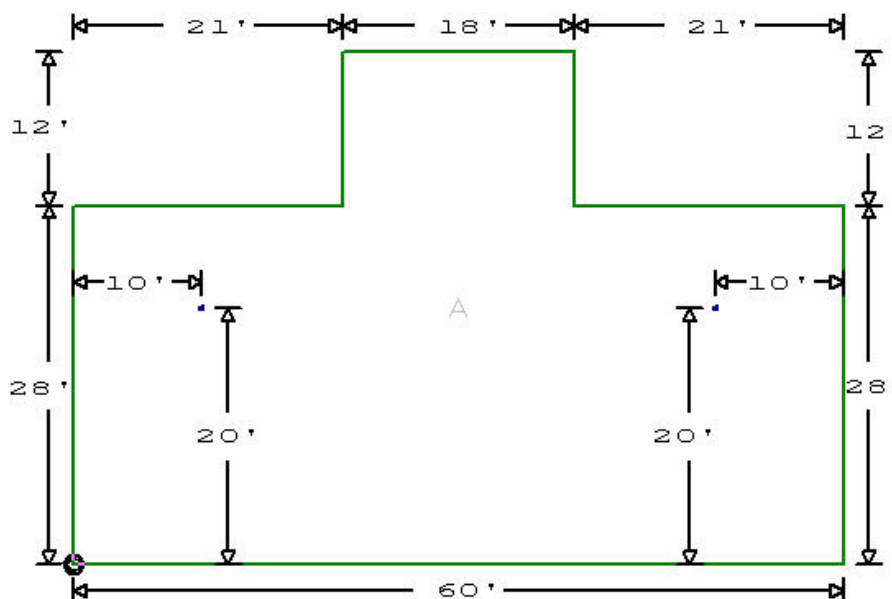

Figure 7-1 Roof Section A
First, you need to open a new project and draw a roof section. The roof in this tutorial is a simple rectangular roof with a protruding section at the top, as shown in Figure 7-1.
3. Draw the roof pictured in Figure 7-1, using the U, R, D, and Q keys.
4. Add two drains to the roof, as shown in Figure 7-1.